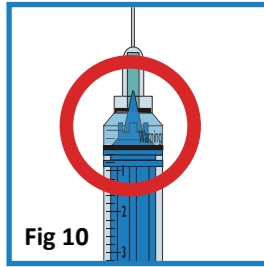

Fig 10
- If the fiducial line of the piston does not cover with the zero graduation line on the barrel, the needle will not retract automatically (Fig 10).